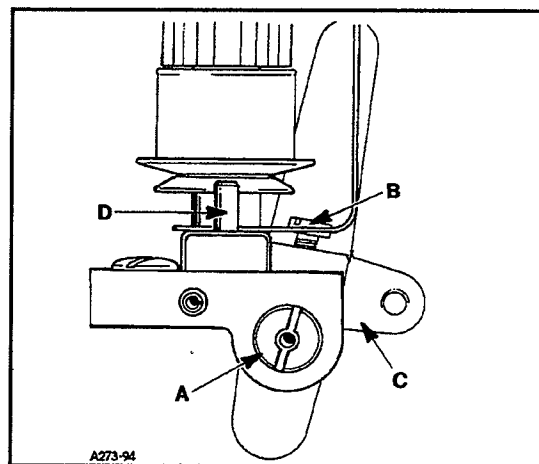

FIG. 18
The thread tension release is set correctly when it begins to function at the point when the upper feed roller begins to rise. When adjustment is necessary, loosen screw (B, Fig. 18) in lifter lever (C). Facing the tension release shaft (A) from the right end of the machine, insert screwdriver in slot in shaft (A). Turn the screwdriver clockwise to raise pins (D) or counterclockwise to lower pins. Retighten screw (B).